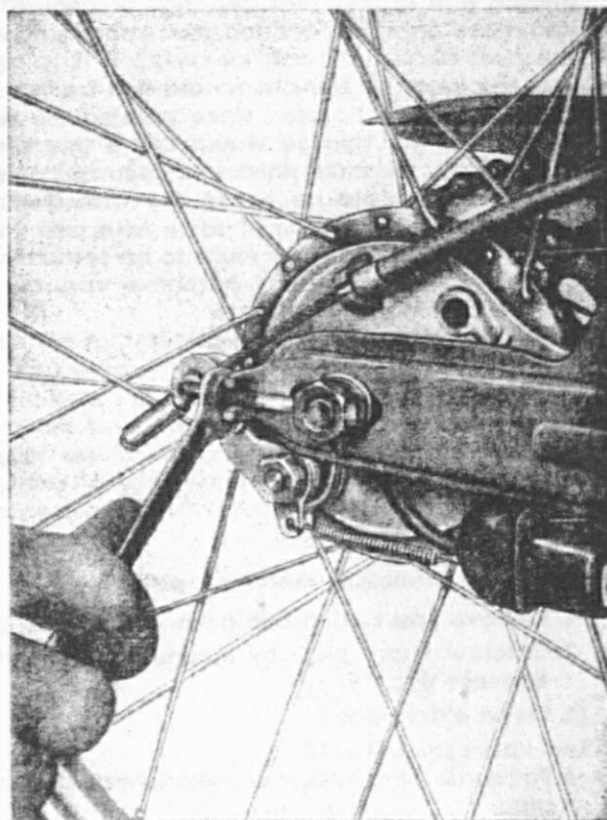

Fig. 24: Chain tensioning
2. Tighten both chain tensioning nuts (Fig. 24) by an equal number of turns until chain tension is correct. If the chain is too tightly stretched, both chain tensioning nuts have to be loosened slightly, but always by an equal number of turns. Before tightening the stub-axle lock nut, make sure that the distance between wheel and fender part of the frame is the same on both sides.